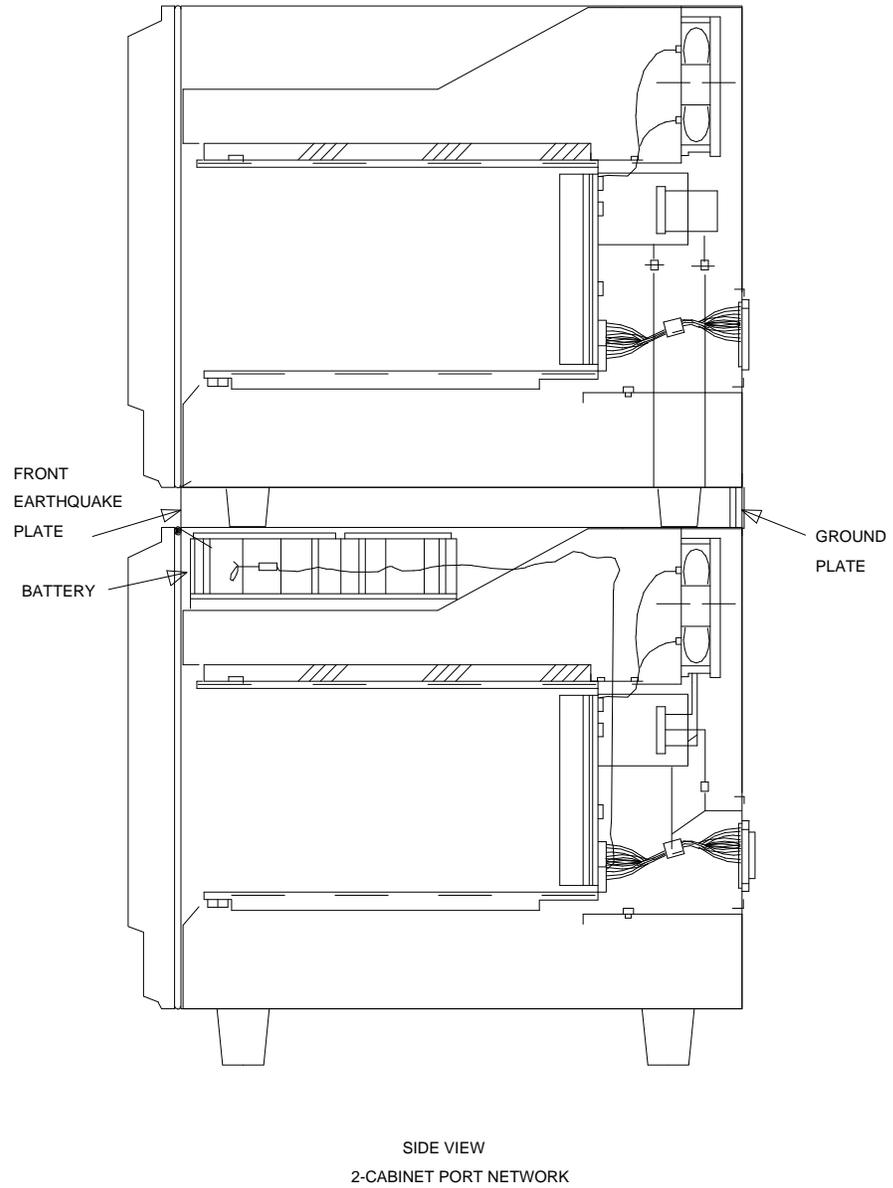

Figure 8-37. Locations of Ground Plate, Earthquake Front Plate, and Battery
6. At the front of the cabinet, line up the earthquake front plate with the holes at the top and bottom of the cabinet (see Figure 8-37). Install the eight screws, but do not tighten.